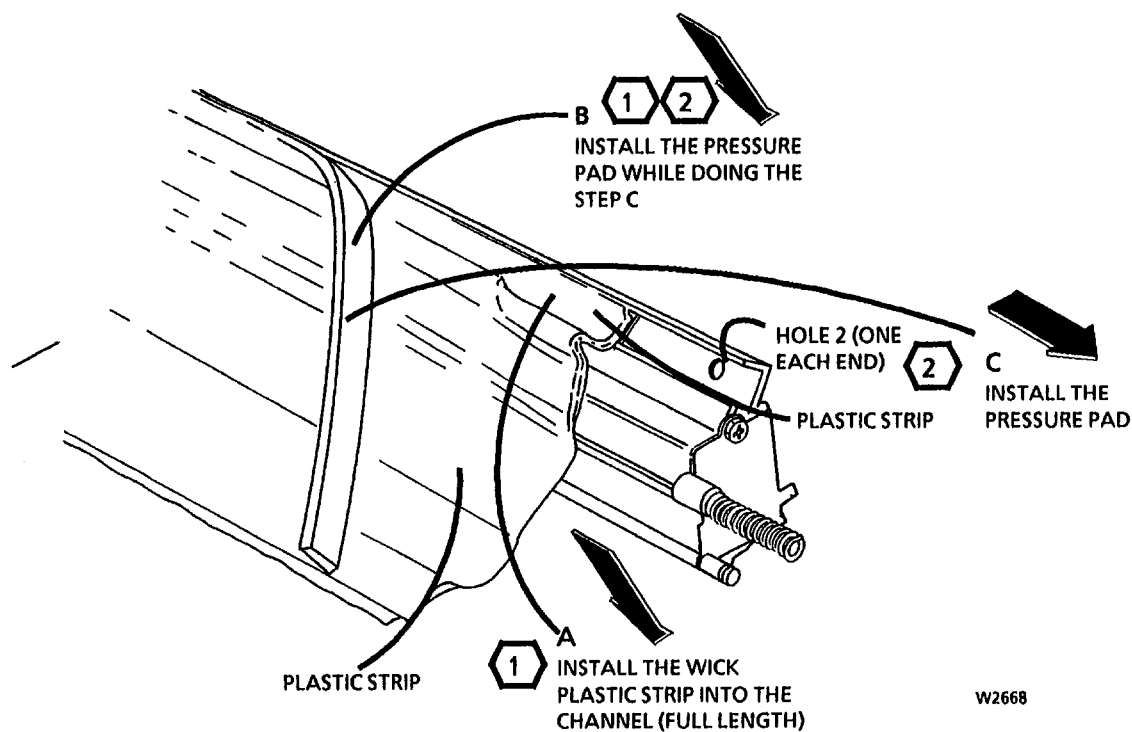

Figure 2. Prepare to Install the Wick
1. (Figure 2): Prepare to install the Wick.